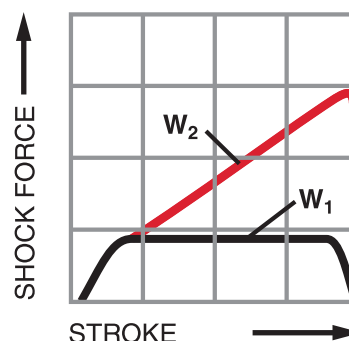

Figure 1
**Varying Impact Weight:** Increasing the impact weight (impact velocity remains unchanged), without reorificing or readjustment will result in increased damping force at the end of the stroke. Figure 1 depicts this undesirable bottoming peak force. This force is then transferred to the mounting structure and impacting load.